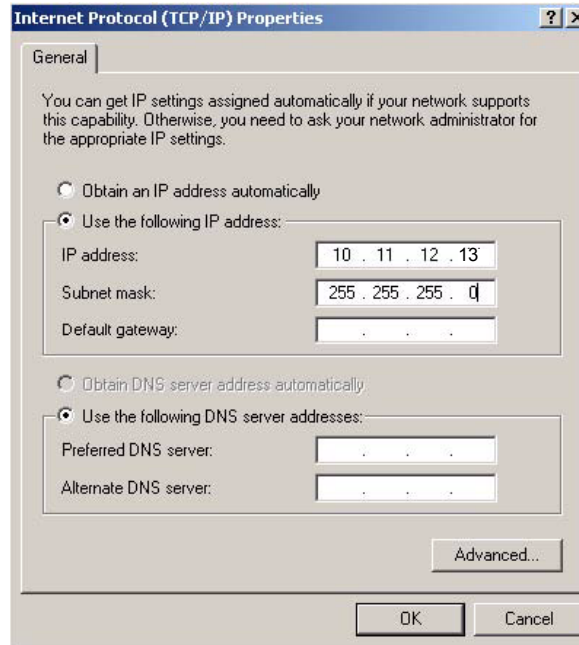

Figure 4
5. Select Use the following IP address. (See Figure 4)